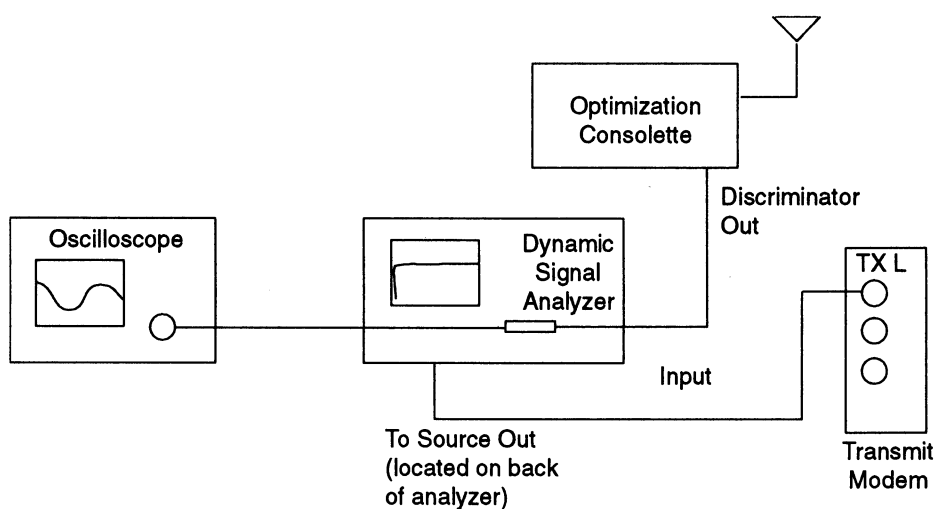

Figure 9. Mod Comp Equipment Setup for Systems With a Functional Audio Distribution Network
Step 1. Connect the Source Out port on the back of DSA to the TX L jack of the audio transmit modem for the channel and site under test. Refer to Figure 9.